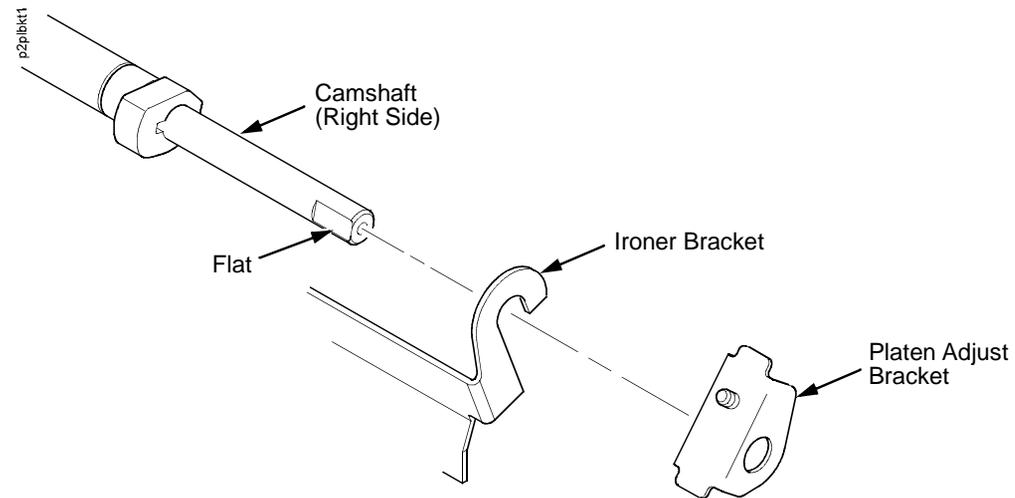

Figure 13. Installing the Platen Adjust Bracket
3. Make sure the two wear saddles are set flush into the corners of the mechanism base platen seat. (See page 503, item19.)
5. Install one platen adjust bracket onto one end of the camshaft, with the screw at the top of the bracket. (See Figure 13.)
7. Insert the left end of the camshaft through the left adjust bracket and through the opening in the left side plate. Rotate the right end of the camshaft into the opening in the right side plate and position the adjustment brackets as shown in Figure 13.
8. Slide the right ribbon guide assembly into the side plate and install the two 7/32 inch screws and washers. (See page 506, items 11, 13, and 14.)
10. Install the black metal washer onto the left side of the camshaft. (See page 503, item 24.)
11. Apply bearing lubricant to the nylon bearings in the two spring links, slide the spring links onto the two platen shafts, and connect the springs to the spring hooks in the side plates. (See page 503, items 15, 16, and 17.)
13. Install the paper ironer bracket. (See page 503, item 5.)